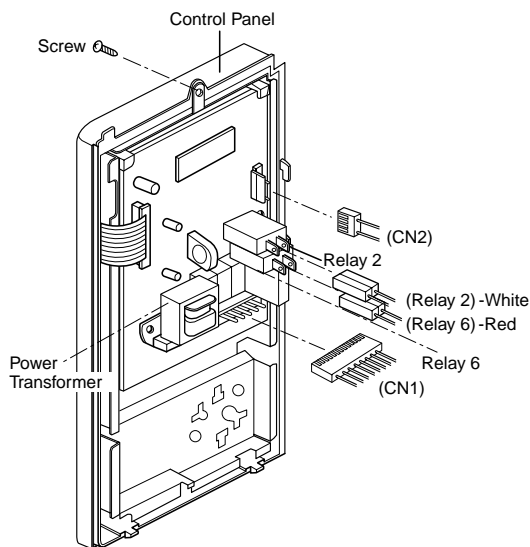

Figure 1
A. REMOVING POWER AND CONTROL CIRCUIT BOARD (Figures 1, 2 and 3)
- (1) Remove a screw securing the control panel assembly to the oven cavity.
- (2) Remove the control panel with pushing it upward.
- (3) Remove the three connectors (CN1, CN2) and wire leads (Relay 2 and Relay 6) from the circuit board.